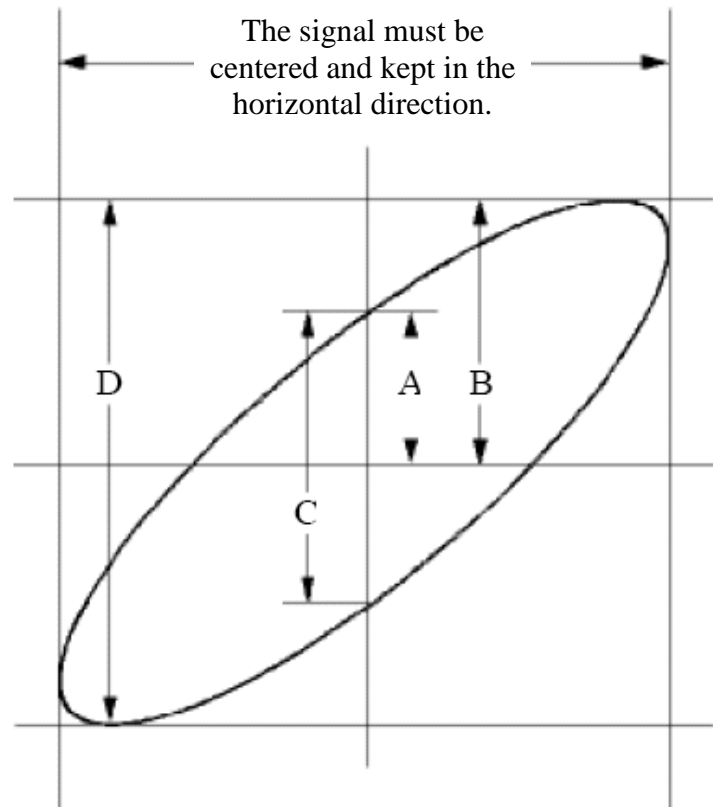

Figure 3-7 Lissajous Graph
6. With the elliptical oscillogram method adopted, observe and calculate the phase difference (see *Figure 3-7*).